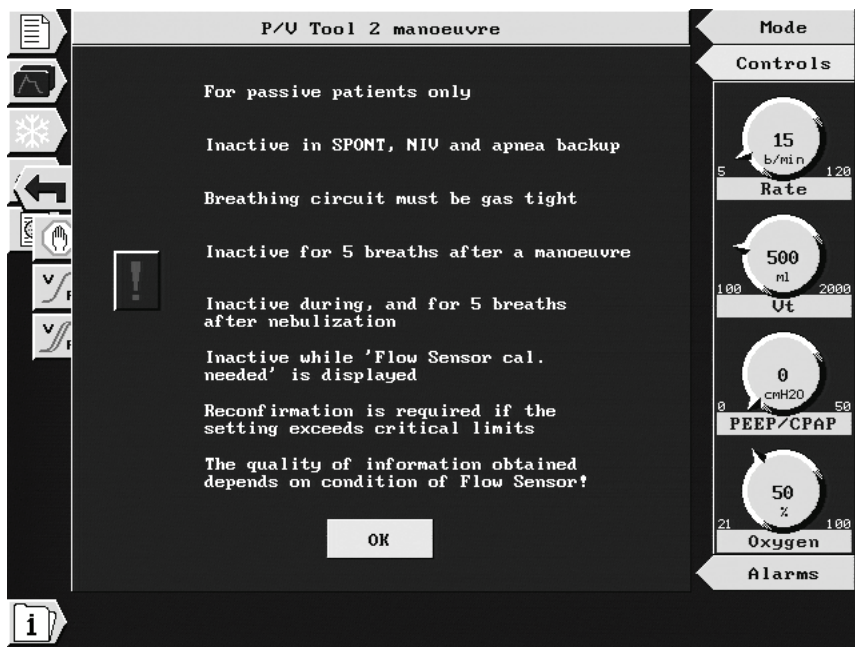

Figure 7-5. P/V Tool 2 information window
1. From the monitoring menu, select the respiratory mechanics symbol. Then, from the respiratory mechanics menu select the P/V Tool 2 symbol, then activate it. The P/V Tool 2 information window opens (Figure 7-5). Read it carefully.